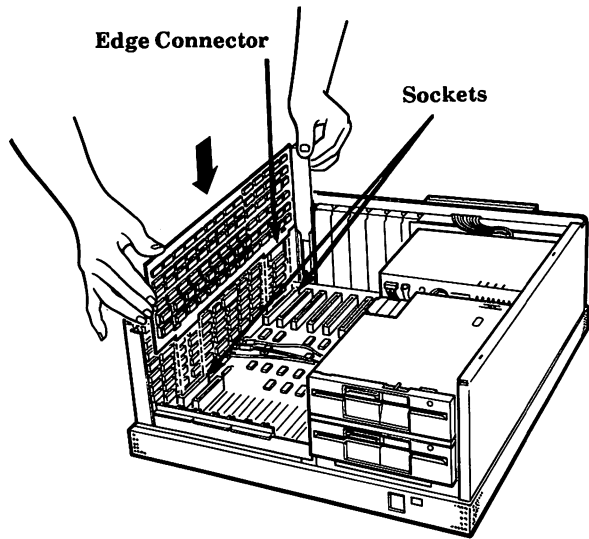

Figure 2-7. Installing the memory board.
7. Locate the two wires connected to the back left corner of the processor. Gently move the wires back out of the way so you can insert the memory board as shown in Fig. 2-7 above.
8. Align the edge connectors over the sockets. See Fig. 2-7.